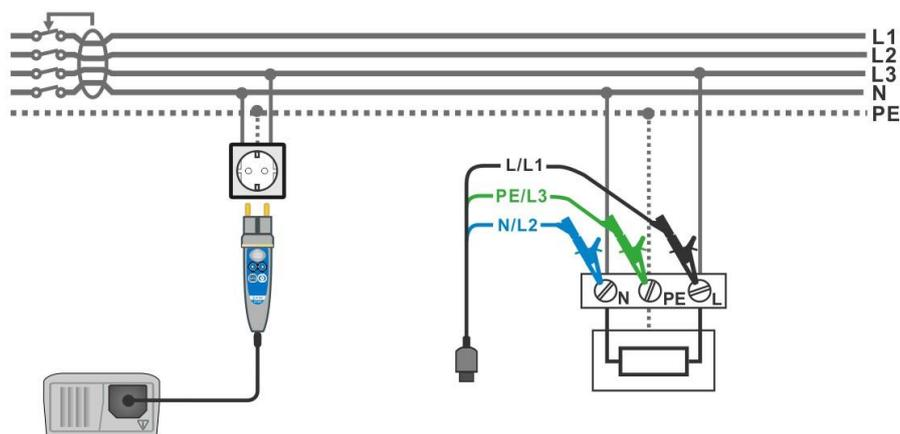

Figure 5.17: Connecting the plug commander and the 3-wire test lead
- ❑ **Connect** test leads to the item to be tested (see *figure 5.17*).
- Connect** test leads to the item to be tested (see *figure 5.17*).
- Connect** test leads to the item to be tested (see figure 5.17).
<ul style="list-style-type: none"> <input type="checkbox"/> Select the RCD function using the function selector switch. <input type="checkbox"/> Set sub-function AUTO. <input type="checkbox"/> Set test parameters (if necessary). <input type="checkbox"/> Connect test cable to the instrument. <input type="checkbox"/> Connect test leads to the item to be tested (see figure 5.17). <input type="checkbox"/> Press the TEST key to perform the test. 	Start of test